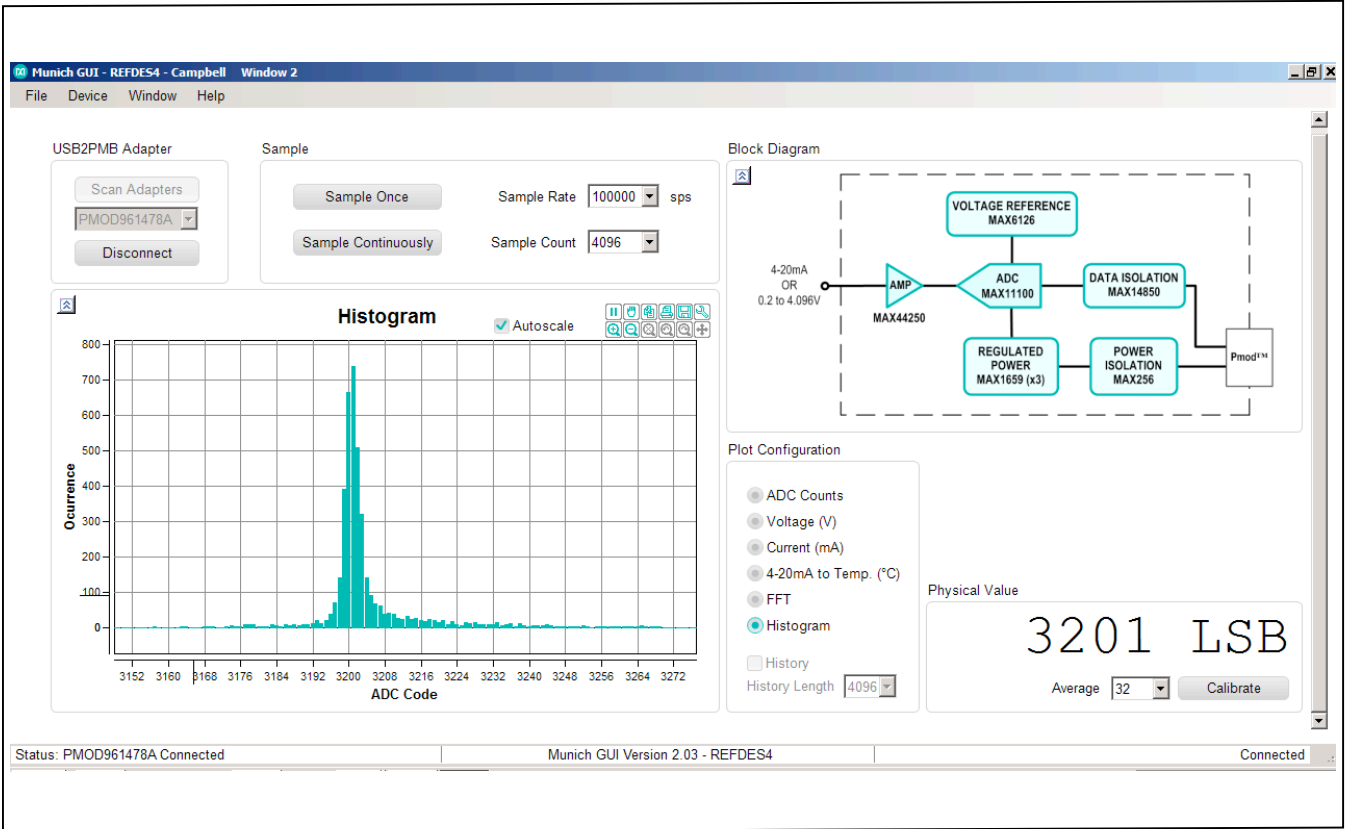

Figure 10. "Histogram" Display on Munich/Campbell GUI
- vi) **Histogram:** This option allows user to view the resultant output in Histogram (Figure 10). The X-axis is ADC code and the Y-axis is the number occurrence.